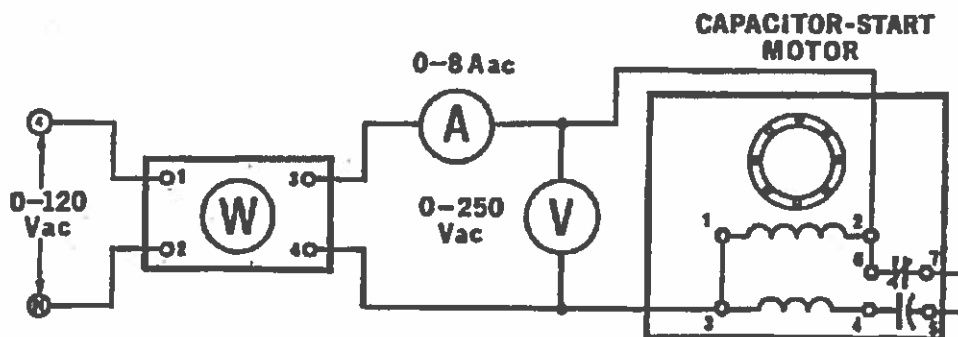

Figure 34-4.
6. Using your Single-Phase Wattmeter, Electrodynamometer, AC Ammeter and AC Voltmeter, connect the circuit shown in Figure 34-4.